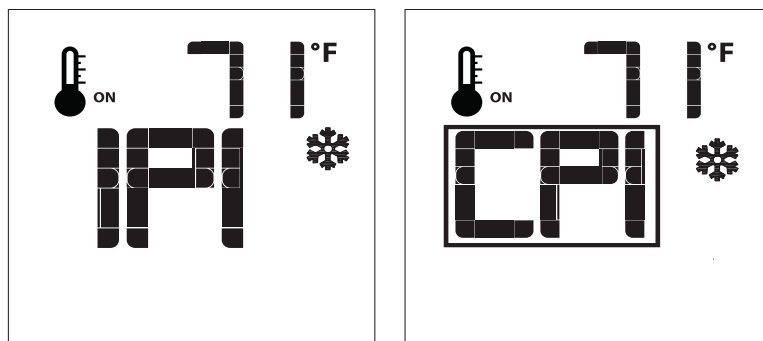
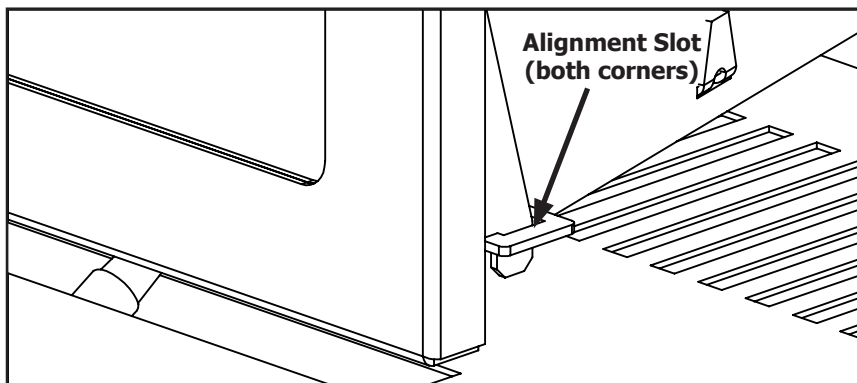

Figure 8: CPI Pilot Mode.
Figure 18. Bottom Alignment Slots for glass door
When the S20I is turned off press the mode key to index to the constant pilot (CPI) mode icon (see figure 8). Pressing the up arrow key will select Continuous Pilot Ignition (CPI) and pressing the down arrow key will return to IPI. Once a selection is made the IFC will beep once to confirm it had received the command. **NOTE: It is recommended to use the continuous pilot mode during the winter when the outside temperature is below 50°F (10°C) to keep the chimney properly heated for updraft during burner ignition.** Continuous pilot mode also keeps the firebox warm which eliminates both heat loss to cold air that is trapped inside the firebox as well as excessive exhaust vapour condensation on the door glass.
In order to install the log set, and for regular cleaning, the glass door must be removed. The cast door must first be removed, as outlined in the section above, before accessing the door latches. There are two (2) door latch mechanisms on top the glass door as shown in Figure 8. Each latch has a hole at the front to use the door tool, supplied with the unit, to pull the mechanisms straight out and up. When the top latches are unhooked, lean the door forward and then lift it up out of the alignment slots at the bottom corners of the firebox, shown in Figure 18.